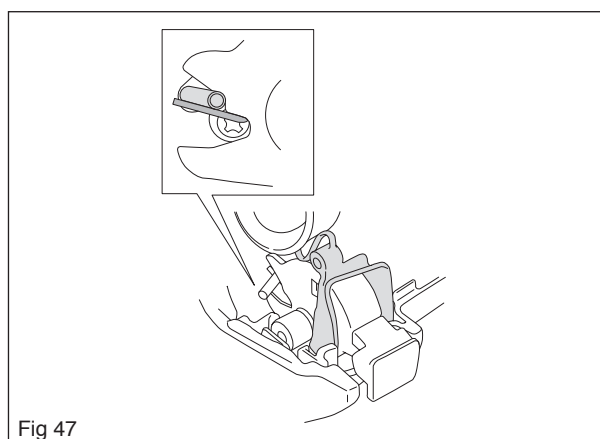

Fig 47
- The spring must be fitted under the choke pin on the carburetor. See figure 47.
- The rubber collar on the stop button must be on the inside of the bottom of the carburetor compartment. See figure 47.